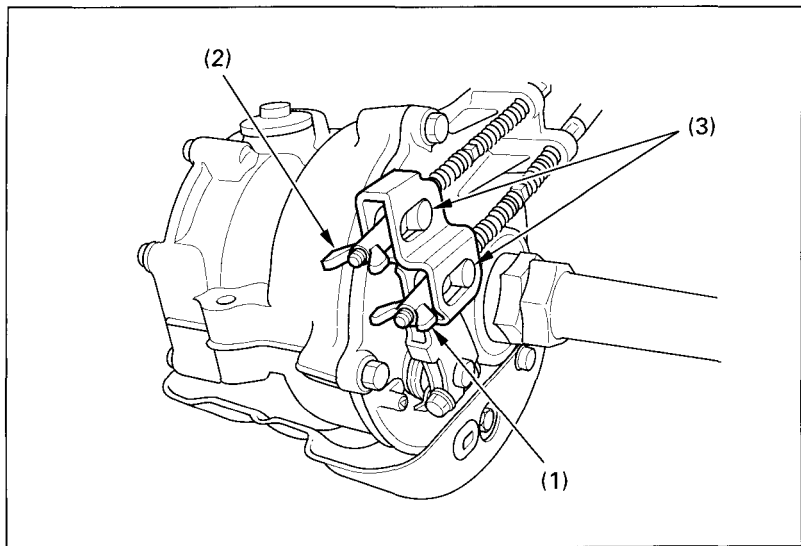

Fig. 4-23
To adjust the free play, turn the brake pedal adjusting nut ( 1 ), (Fig. 4-23 ), located on the brake operating rod at the rear of the frame. Make sure the cut-out on the adjusting nut is properly seated on the brake arm pin ( 3 ).
To adjust the free play, turn the brake lever adjusting nut (2), (Fig. 4-23 ), located on the brake operating rod at the rear of the frame. Make sure the cut-out on the adjusting nut is properly seated on the brake arm pin (3).